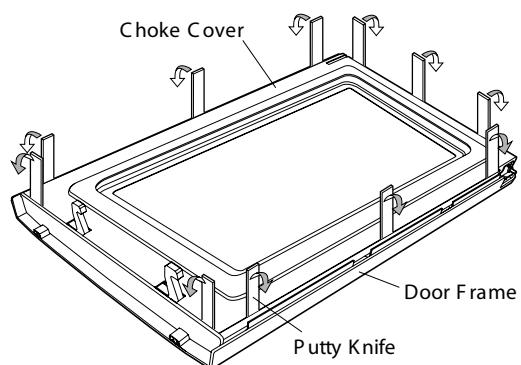

Figure C-5. Door Disassembly
3. Insert a putty knife (thickness of about 0.5mm) into the gap between the choke cover and door frame as shown in Figure C-5 to free engaging parts.
4. Pry the choke cover by inserting a putty knife as shown Figure C-5.
7. Release two (2) pins of door panel from two (2) holes of upper and lower oven hinges by lifting up.
9. Remove the four (4) screws holding the door panel to the door frame.